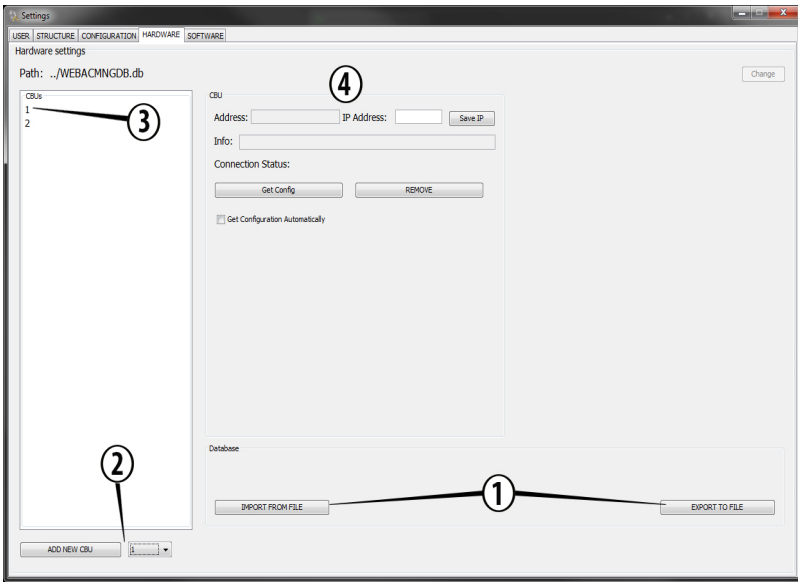

Figure 3. SETTINGS window, HARDWARE tab
After logging in, the system opens the Status page. The other pages of the user interface can be accessed by clicking the corresponding page from the navigation bar (Figure 3: Status page). The content of the navigation bar depends on the user level.
1. (No. **2** in the Figure 3) Select the address of the CBU from the drop-down list, and click ADD NEW CBU.
2. Select the CBU from the CBUs-list (No. **3** in the Figure 3).
3. Check the Get Configuration Automatically -box in the CBU settings (No. **4** in the Figure 3) if you want the system to attempt to get the luminaire info and configuration data automatically after each luminaire test.
To export the database into a file, simply click the EXPORT TO FILE -button (No. 1 in the Figure 3) and follow the instructions on the screen. To import a database, click IMPORT FROM FILE.